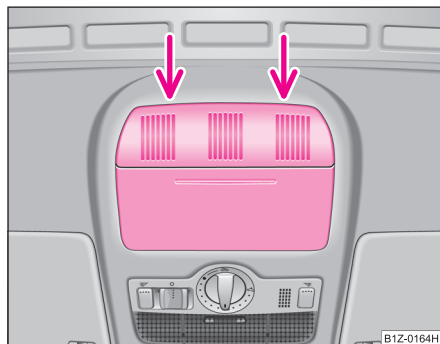

Fig. 32 Detail of the headliner: point for positioning screwdriver
- Position the flat blade of a screwdriver carefully against the rear edge of the cover of the electrical drive ⇒ fig. 32.